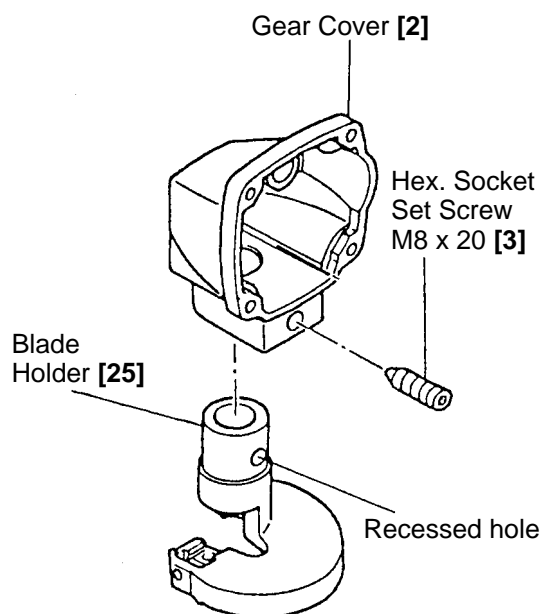
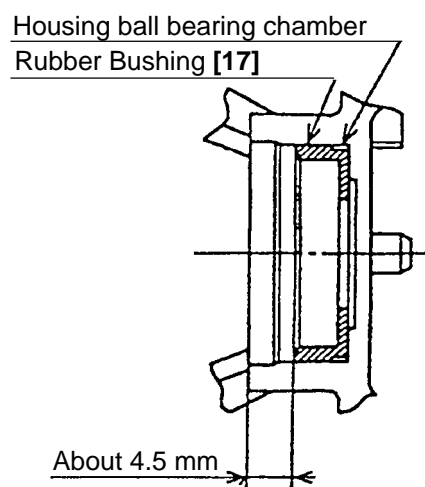

Fig. 6
Fig. 7
- (1) Grease (Nippeko Grease (SEP-3A) is recommended) is used inside the Gear Cover [2]. Prior to reassembly, thoroughly remove the old grease and apply fresh grease liberally to the following parts: the pinion portion of the Armature [11], the Spindle and Gear Set [7], the Needle Bearing (M152112) [6] of the Connecting Rod Ass'y [5], the needle bearing portion of the Inner Cover [8], the Piston [22] and the inner circumference of the Blade Holder [25] where the piston slides.
- (2) When press-fitting the Needle Bearing (M152112) [6] into the Connecting Rod Ass'y [5] with a hand press, fit an appropriate jig against the engraved surface end of the needle bearing to push it properly into the Connecting Rod Ass'y [5].
- (3) When reassembling the Blade Holder [25] into the Gear Cover [2] (see Fig. 6), carefully ensure that the Hex. Socket Set Screw M8 x 20 [3] is properly aligned with the recessed hole on the blade holder. Then, tighten the Hex. Socket Set Screw M8 x 20 [3] to the rated torque.
- (4) Using the accessory Thickness Gauge [502], adjust the clearance between the Moving Blade [23] and the Stationary Blade [26] to a dimension of 0.2 mm (.008"). (For adjustment procedures, please refer to the Handling Instructions.)
- (5) Fit the Rubber Bushing [17] into the housing ball bearing chamber before installing the Armature [11] (see Fig. 7).